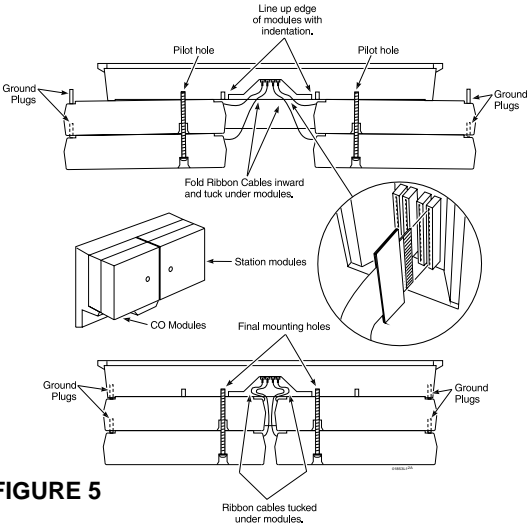

FIGURE 5
1. Line up the screw hole in the new module (i.e., the one you are installing) with the pilot hole in the CEU base or existing module. See Figure 5.